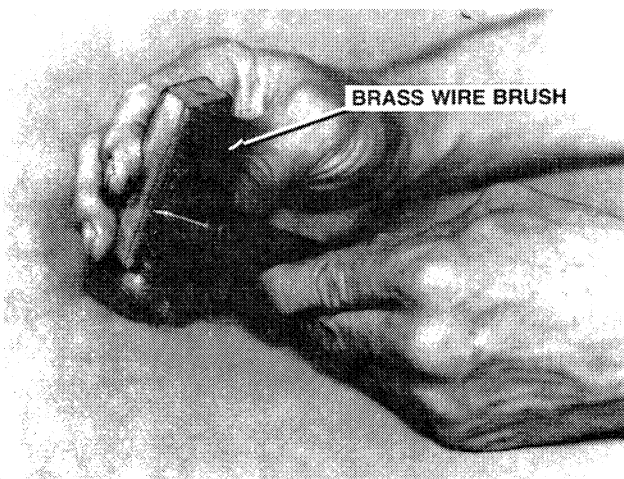

Figure 8-16. Cleaning Injector Tip
(1) See figure 8-16. The injector must be cleaned before testing the injector. Wash the body, nozzle tip and the cap nut in cleaning solvent (1, table 5-1) to remove external dirt, grease and carbon deposits. Use an injector cleaning brush (table 2-1) to remove hard deposits from the cap, body or the outside diameter of the tip.